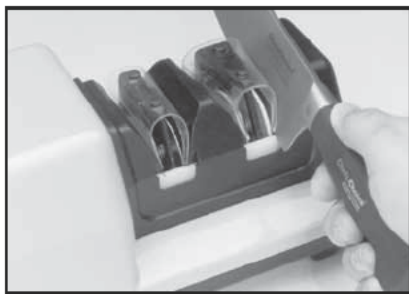

Figure 7. Honing in Stage 2 - Alternate pulls in left and right slots to create the final bevel. Knife edge rests lightly on Edge Stop Plate.
2. Stand facing the front of the sharpener (facing the on/off switch side). Place the knife in Stage 1 in the slot between the plastic spring guide and the knife Blade Guide as shown in Figure 7, making sure the face of the knife blade is resting flat against the Blade Guide. You can start in either the right or left slot, but always alternate slots after each pull.
1. **MAKE CERTAIN THE KNIFE IS FREE OF FOOD, FAT OR OIL.** Facing the front of the sharpener, place the knife in one slot of Stage 2 as shown in Figure 7 with the face of the knife blade lying flat against the Blade Guide.